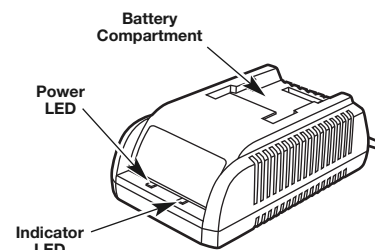

Fig. 7
2. The red Power LED will illuminate (Fig. 7).
NOTE: Make sure the battery is fully inserted into the charger by making sure the red Indicator LED charge light is on (Fig. 7).
4. Once the battery has reached a full charge level the Indicator LED will turn from red to green (Fig. 7).